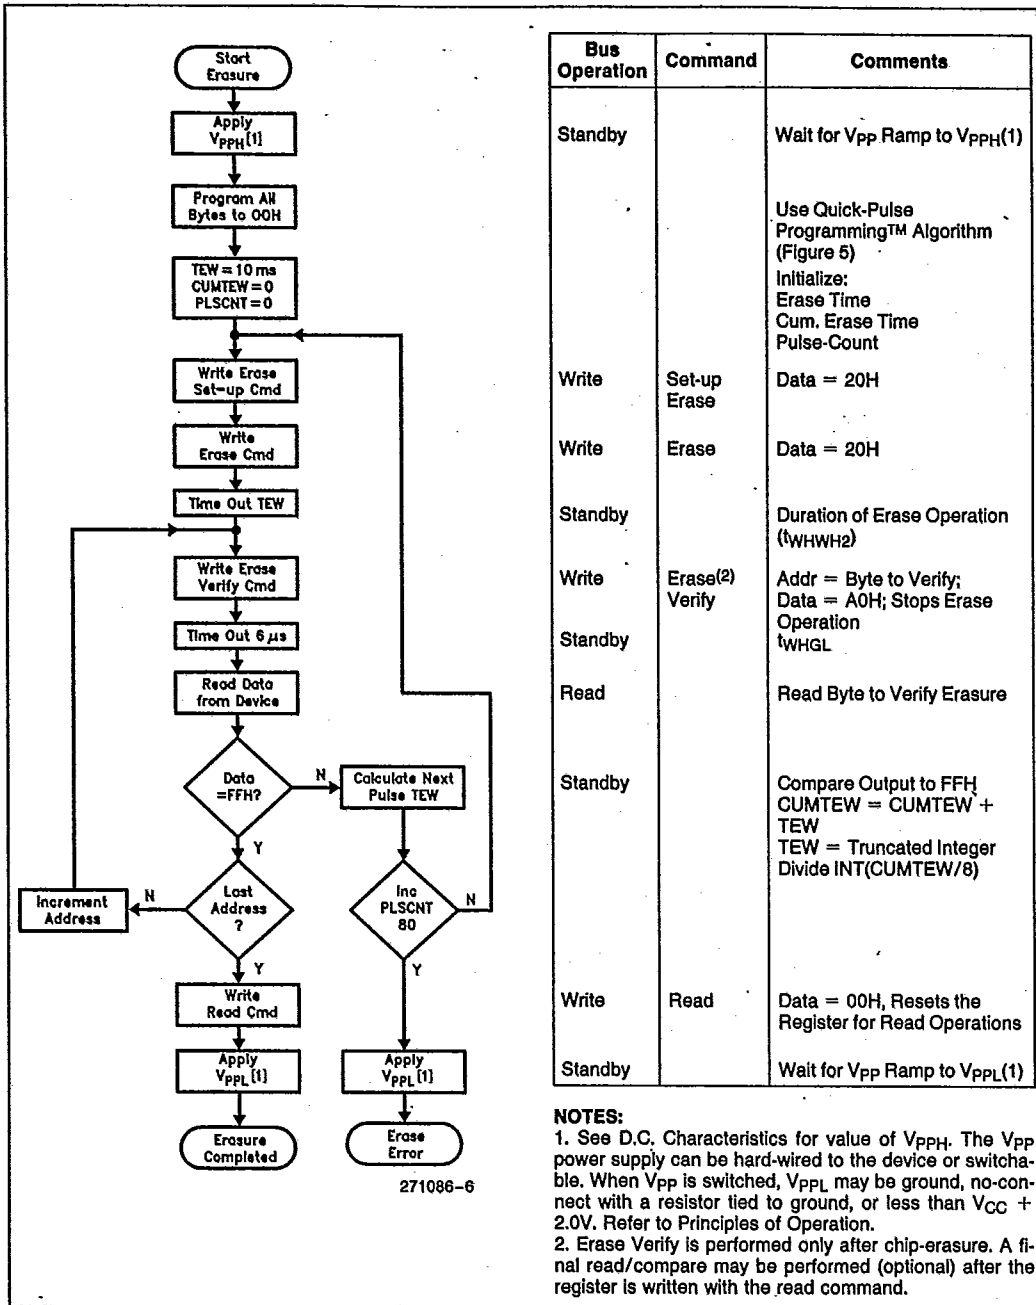

Figure 6. M28F256 Quick-Erase™ Algorithm
- Figure 6 illustrates the Quick-Erase™ Algorithm.
In the case where the data read is not FFH, another erase operation is performed. (Refer to Set-up Erase/Erase). Verification then resumes from the address of the last-verified byte. Once all bytes in the array have been verified, the erase step is complete. The device can be programmed. At this point, the verify operation is terminated by writing a valid command (e.g. Program Set-up) to the command register. Figure 6, the Quick-Erase™ Algorithm, illustrates how commands and bus operations are combined to perform electrical erasure of the M28F256. Refer to A.C. Erase Characteristics and Waveforms for specific timing parameters.
Erase execution then continues with an initial erase operation. Erase verification (data = FFH) begins at address 0000H and continues through the array to the last address, or until data other than FFH is encountered. With each erase operation, an increasing number of bytes verify to the erased state. Erase efficiency may be improved by storing the address of the last byte verified in a register. Following the next erase operation, verification starts at that stored address location. A total of seventy-nine erase operations are allowed. Erasure typically occurs in one second. Figure 6 illustrates the Quick-Erase Algorithm.